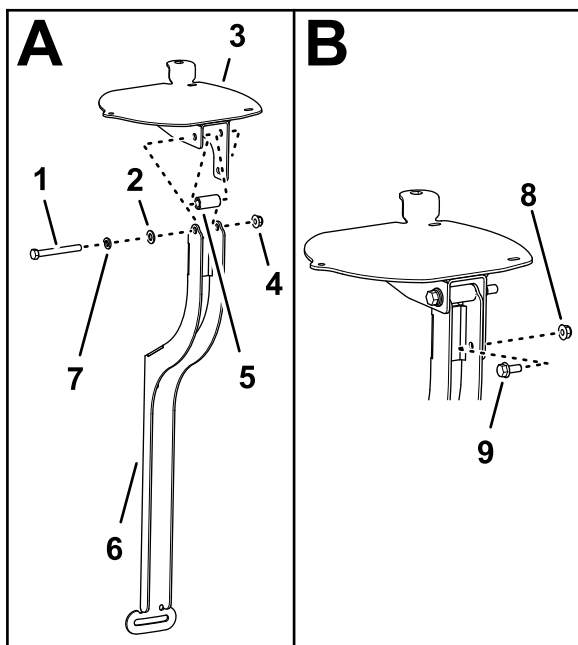

Figure 152
1. Align the holes in the navigation-receiver plate, spacer (3/8 x 1 inch), and receiver mount (Figure 152).
2. Assemble the receiver plate and spacer to the mount with a bolt (3/8 x 3-1/4 inches), lock washer (3/8 inch), washer (3/8 x 13/16 inch), and flange locknut (3/8 inch) as shown in Figure 152.
3. Assemble the flange-head bolt (5/16 x 3/4 inch) and flange locknut (5/16 inch) through the smaller hole in the receiver mount and the slot in the receiver plate (Figure 152).